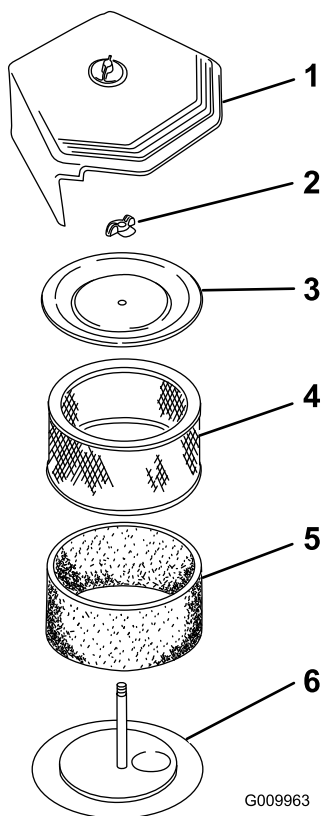

Figure 41
3. Loosen the cover retaining knob and remove the cover (Figure 41).
6. Remove the air filter cover nut and the cover (Figure 41).
2. Wash the precleaner filter in warm water with detergent (Figure 41).
2. Install the precleaner (ensure it is oiled) onto the air filter element (Figure 41).
3. Install the air filter element onto the base (Figure 41). Ensure that it is fully seated.
4. Install the air filter element cover and secure it with the element cover nut (Figure 41).